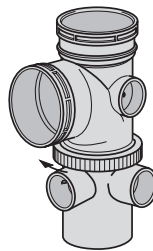

Fig.31c Tightening locking ring
**Step 3** – Re-tighten locking ring (Fig.31c)